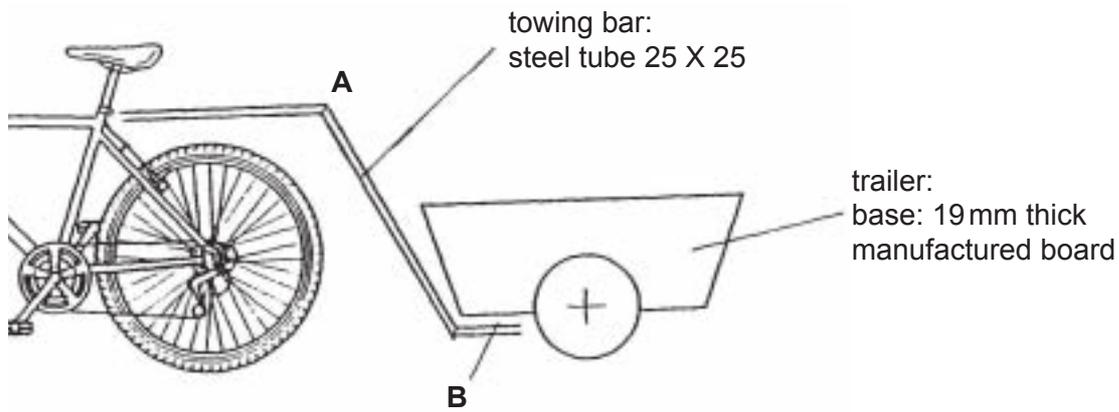

Fig. 7
- 13 Fig. 7 shows a trailer to be pulled behind a bicycle by means of a towing bar made from mild steel tube.